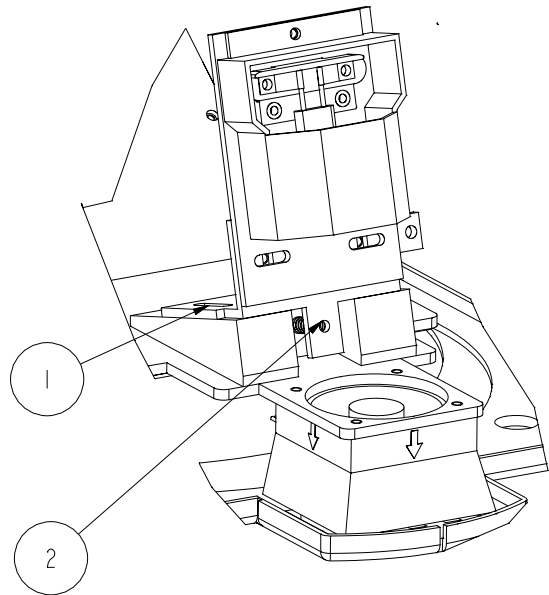

Figure 26: X-Ray Field/Light Field alignment
3. Loosen the 2 screws, item 1, Figure 26.
4. IF Light Field > X-Ray Field THEN turn screw, item 2, Figure 26, clockwise to reduce the Light Field.
5. IF Light Field < X-Ray Field THEN turn screw, item 2, Figure 26 counter clockwise to enlarge the Light Field.
6. After completing the adjustment, tighten the 2 screws, item 1, Figure 26.